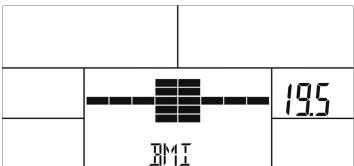
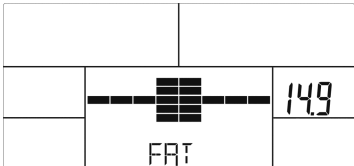

FIG 25
FIG 26
5. The LCD will display the body FAT recommendation symbol,BMI(Figure 25) and FAT %(Figure 26) for 30 seconds.